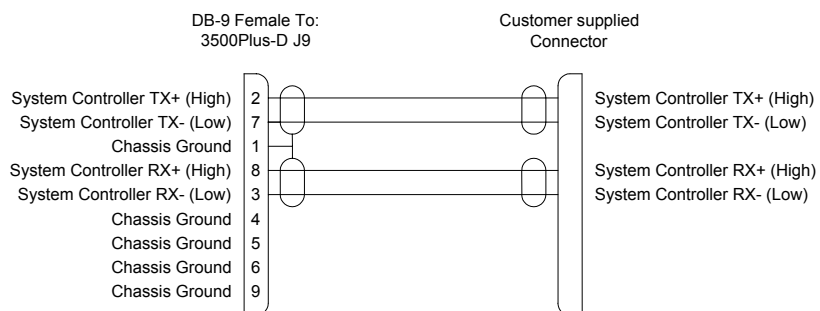

Figure 83. 3500Pro-D RS-422 CPU Link Cable
- COM 4 is an RS-422 CPU Link similar to the RS-232 CPU Link, except the cable may be up to 4000 feet in length and an RS-422 interface card must be installed in the expansion bus. COM 4 may be used with any of the protocols shown in Table 3 on page 53. If necessary, a cable may be fabricated in the field as shown in Figure 83.